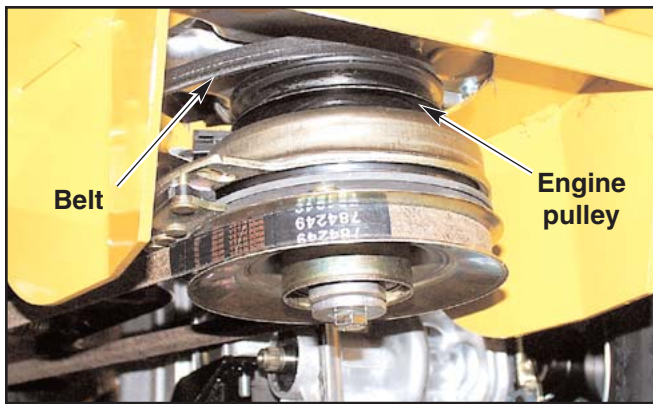

Figure 9-19
6. Slide the belt off the engine pulley. The belt will have to be slid above the engine pulley to allow the belt to be removed from the other pulleys. Fig. 9-19